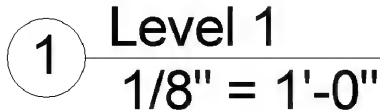

FIGURE 14-1.5 Drawing title
10. **Zoom In** on the lower left corner to view the drawing identification symbol that Revit automatically added (Figure 14-1.5).